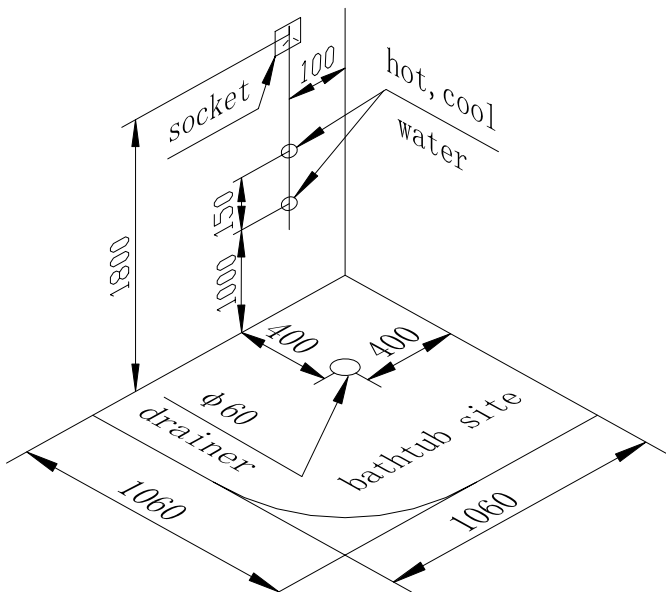

fig. 1
- Water pipe---- Two DN15 zinc-plated tubes for cold and hot water, out of wall install the stop valve. The height to the ground H=about 1000mm, two tubes are about 150mm apart. drainage hole of Φ 60mm should lies in the radius of 300mm as the center showed in the illustration (as fig.1)